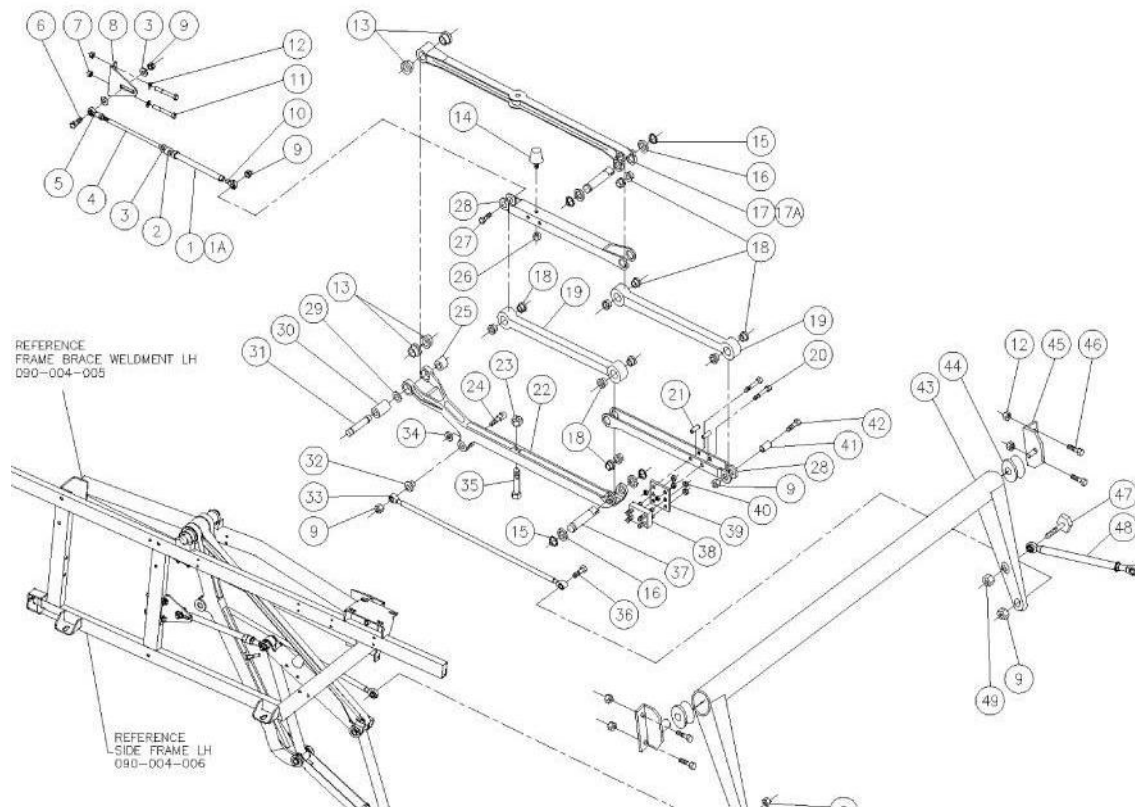

**Figure 4**
3. In figure 4. The bracket shown is bolted to the side-frame and it adjusts up or down to change the sweep height during the sweeping motion. Where do you position the sweep to make this adjustment?